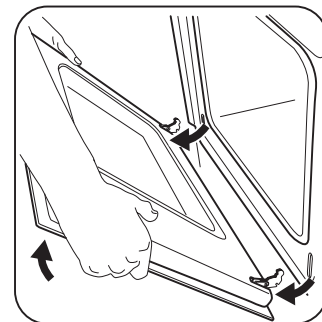

Figure 23: Holding door for removal
The interior oven light is located at the rear of the oven cavity and covered with a glass shield. The glass shield must be in place whenever the oven is in use (Figure 23). Only use lamps with the same specifications.
3. Firmly grasp both sides of oven door along the door sides. Do not use the oven door handle. Close the oven door halfway to the first opening position. Then, pull forward and remove the door from its seat (Figure 23).
1. Firmly grasp both sides of oven door along the door sides. Do not use the oven door handle (Figure 23).
2. Holding the oven door at the same angle as the removal position, seat the hook of the hinge arm over the roller pins located on each side of the oven door frame (Figure 23). The hook of the hinge arms must be fully seated onto the roller pins.